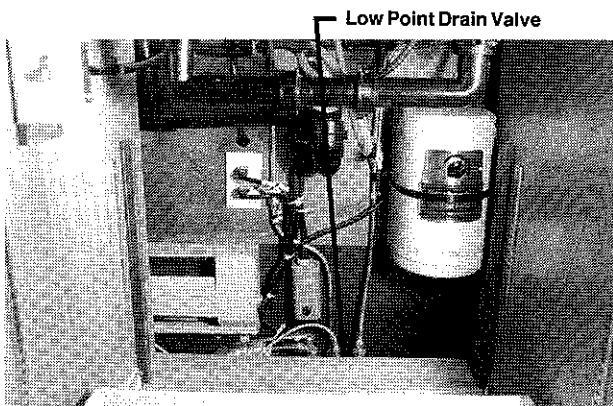

Figure 5-6. Galley Sink Plumbing
3. Open the low-point drain valves located beneath the galley sink, figure 5-6, and the lavatory.